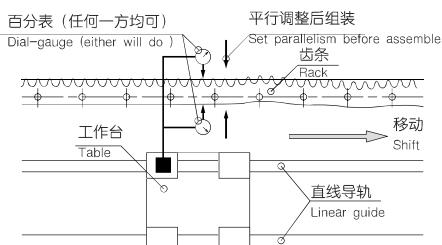

图2 齿条平行的测量方法 /Fig. 2 -Measuring procedures for parallelism of Rack-
2. 以直线导轨为基准将齿条调节平行（参照图2）。相对于导轨，使用百分表确认齿条齿顶的平面部（或齿底面）以及侧面的跳动，请调整到齿条安装的精度值以下。（参考P21安装精度表）
Check parallelism between linear guide and Rack<refer to Fig. 2>. Confirm shifted width between guide block and tooth tip of Rack (tooth surface) and adjust it below mounting precision of Rack.(refer to list of mounting precision P. 21)